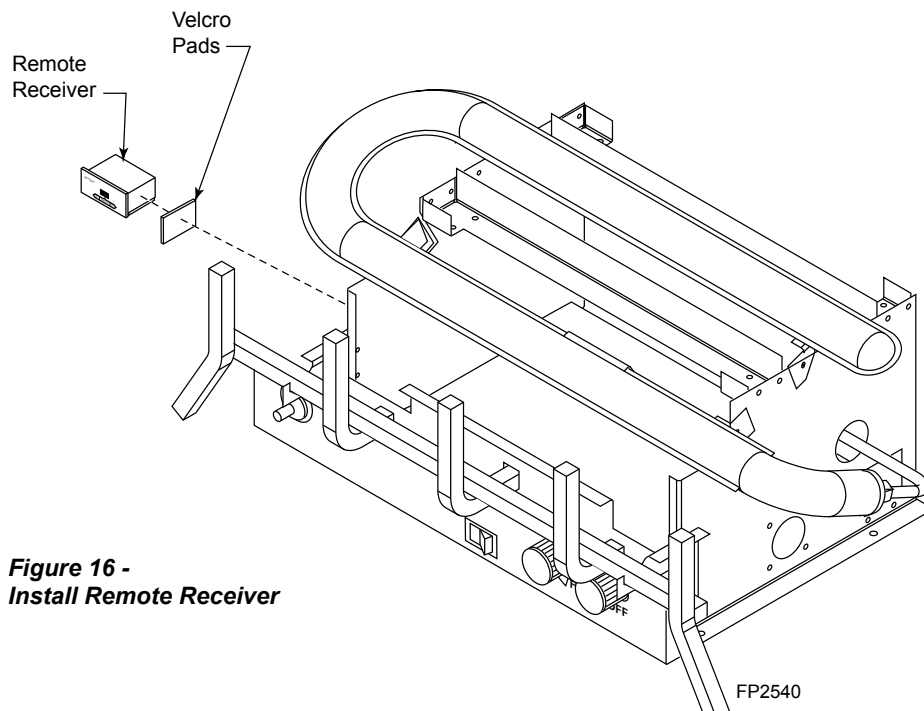

Figure 16 - Install Remote Receiver
2. Stick velcro pads with self-adhesive backing to the right side of remote receiver and to the left side of the unit. *Figure 16*